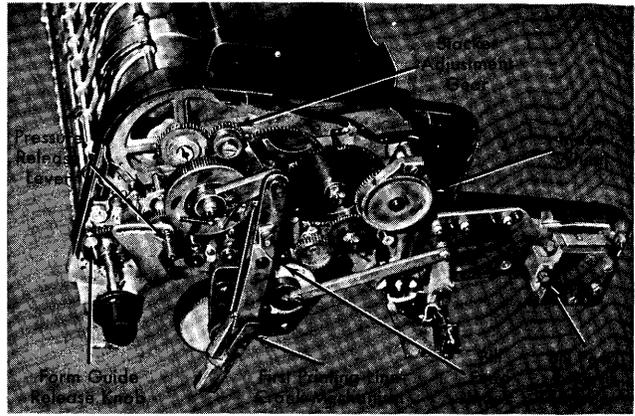

Figure 94. Right Side of Bill Feed
Operating Features (Figures 94, 95, 96)
Pulling out the form-guide release knobs releases the form guide for removal from the machine. The right knob is located inside the cover (Figure 94).
PRESSURE-RELEASE LEVER (FIGURE 94)
2. Make sure there are no forms in the bill-feed hopper. Set the bill-feed index (Figure 94), which
3. Unlatch the bill feed by pulling out the release button (Figure 94) located under the right side cover, toward the rear of the bill feed. Then pull the bill feed down slowly.
7. Turn on the main-line switch, press the START key several times, and check the index each time. From the front of the machine, the index can be readily observed on the index idler-wheel (Figure 94).